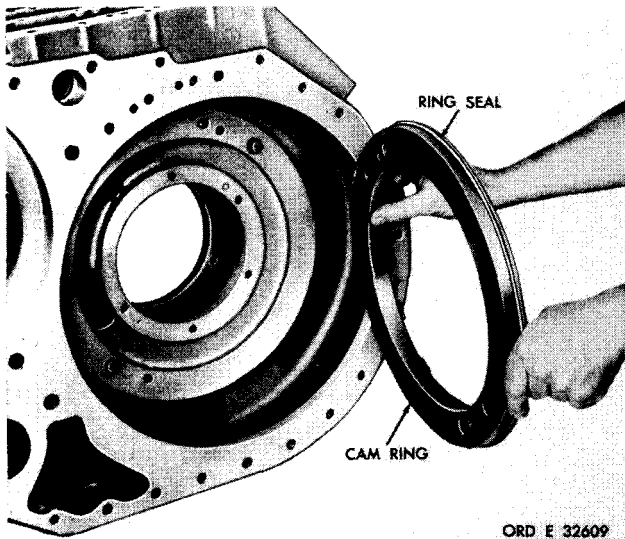

Figure 190. Removing (or installing) left-brake apply cam stationary ring
*C2 at. Remove left-brake apply cam stationary ring (fig. 190). Do not remove ring seal and expander from ring unless replacement is necessary.
*C2 d. If ring seal and expander were removed from left-brake apply cam stationary ring, install new replacements (fig. 190).
e. Install the left-brake apply cam stationary ring in the transmission rear housing (fig. 190).